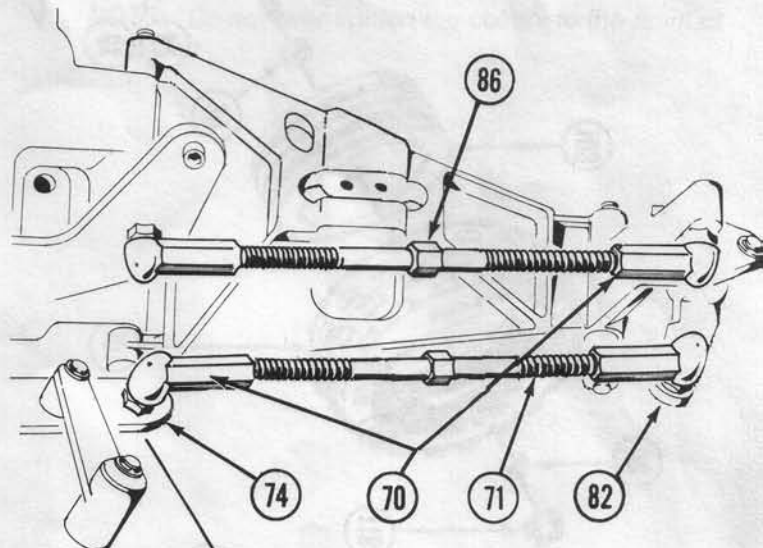

FIG. 33
16. Snap one adjustable rod end (70) on 1 7/8 turnbuckle onto ball joint (72) in the end of steering sector arm (74). Fig. 33.
17. Snap one adjustable rod end (70) on 1 1/2" turnbuckle onto ball joint (72) in front shock tower (9). Snap opposite end onto ball joint (55) in spindle carrier (83). Fig. 33.